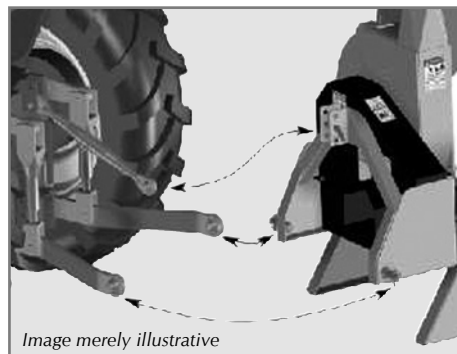

Figure 2
- ✓ Check the oil in the gearbox and that in the hydraulic tank. Consult the table on page 7 of this manual. The TR 1500 shredder was designed to be attached to a tractor equipped with a 3-point hydraulic arm with universal coupling, as shown in Figure 2.